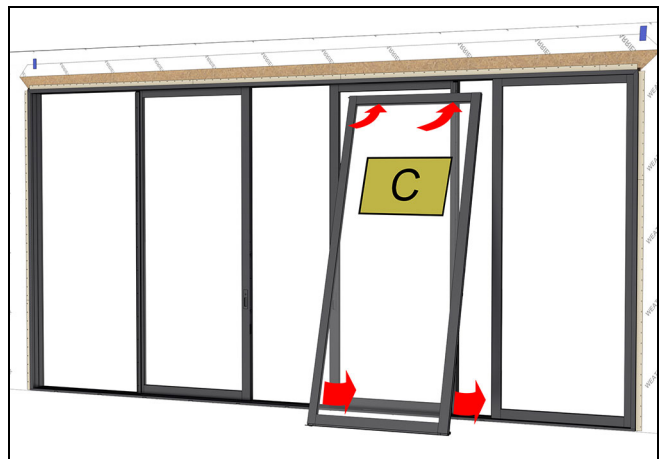

Figure 137
8. Install the (C-R) stationary panel on the exterior track, making sure the panel overlaps the (A) operator panel to leave room for the interlocks to clear. See Figure 137.